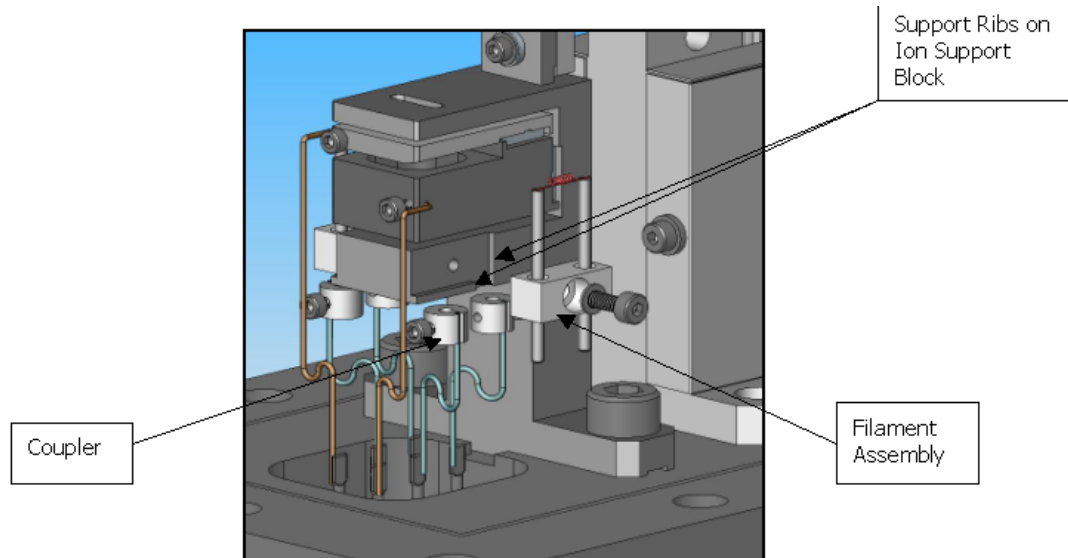
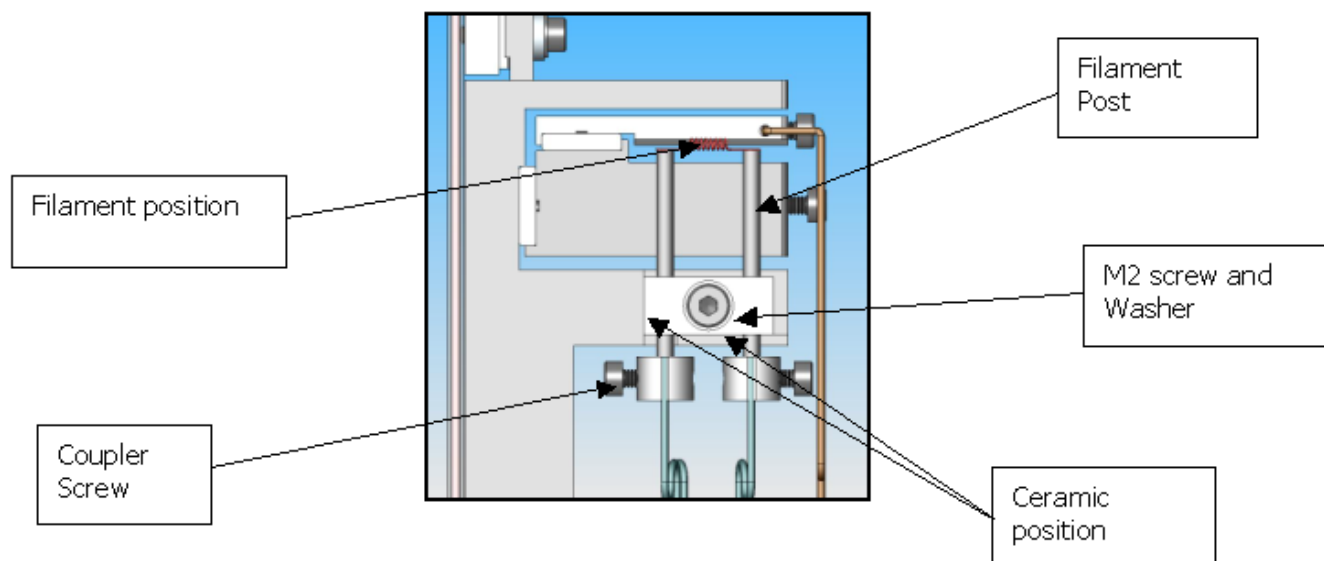
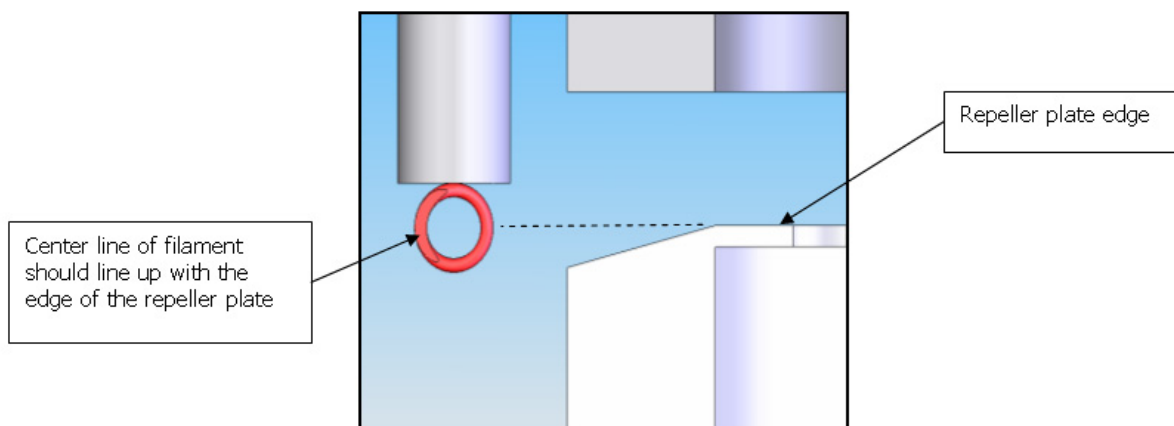

Figure 14: Coupler and Filament Assembly
Figure 15: Filament Position
Figure 16: Filament Alignment
20. Guide the ceramic against the bottom and side ribs of the ion source support block (Figure 14: Coupler and Filament Assembly and Figure 15: Filament Position). Correct positioning of filament is critical for proper spectrometer operation.
21. While holding the filament in position, insert the M2 screw and washer and tighten (Figure 15: Filament Position).
22. Tighten the coupler screws onto the filament posts (Figure 15: Filament Position).
23. Verify ceramic is tight against the bottom and right side ribs. Ensure that the filament is positioned in the slot of the ion source as shown (Figure 15: Filament Position and Figure 16: Filament Alignment).